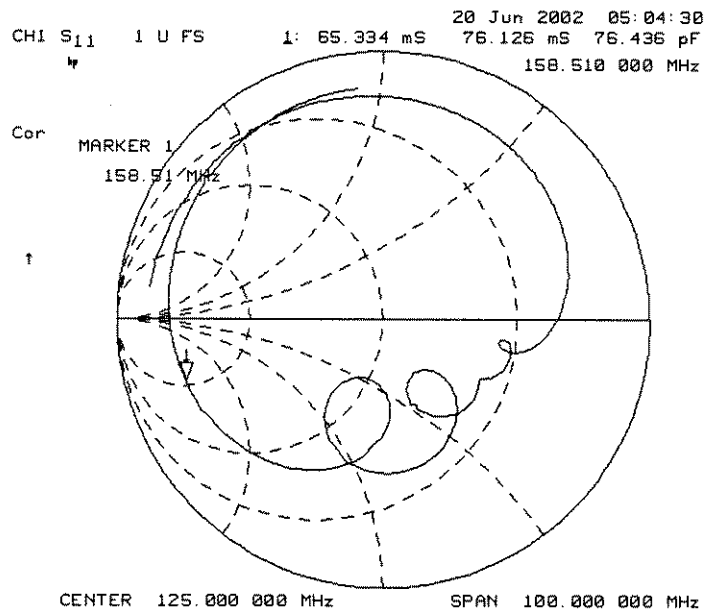

**Figure 2-15. Example Impedance Measurement Trace**
2. Press **MARKER** **MARKER MODE MENU** **SMITH MKR MENU** and turn the front panel knob to read the resistive and reactive components of the complex impedance at any point along the trace, as shown in Figure 2-15. This is the default Smith chart marker.